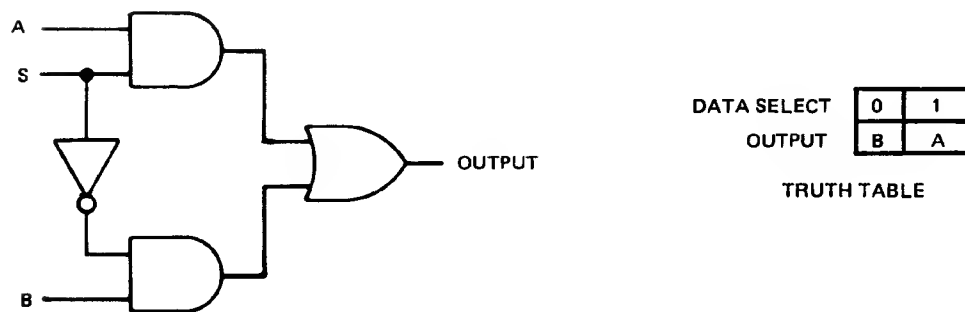

Figure 2-22. Basic Two-Input Two-to-One Multiplexer
2-84. It is important to understand how the multiplexers function, so we have included a brief discussion of basic multiplexer operation. Figure 2-22 is the schematic of a basic two-input two-to-one data multiplexer. When the data select line (S) is high, the signal at the A input is reflected at the output. When S is low, signal B appears at the output and not A. The multiplexers used to address the ROM are nothing more than elaborations of the foregoing theme. The ROM requires multiplexers which can select one of two four-bit words.